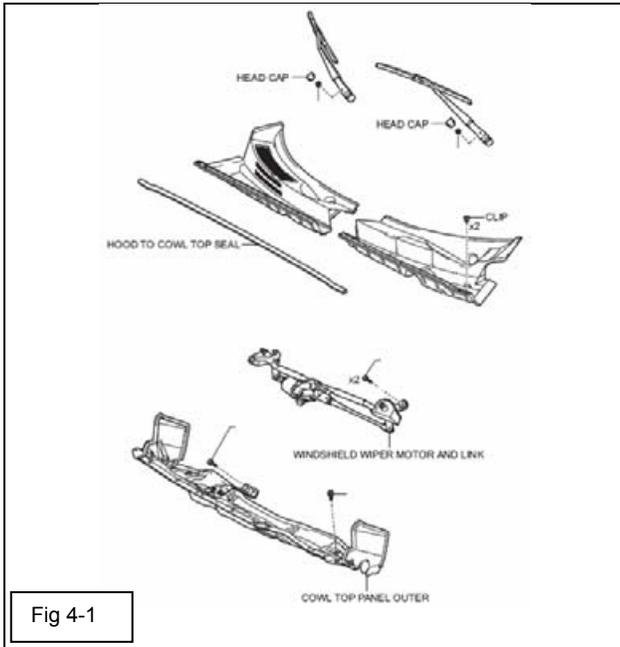

Fig 4-1
4. Install Cowl Assy. (Fig 4-1)